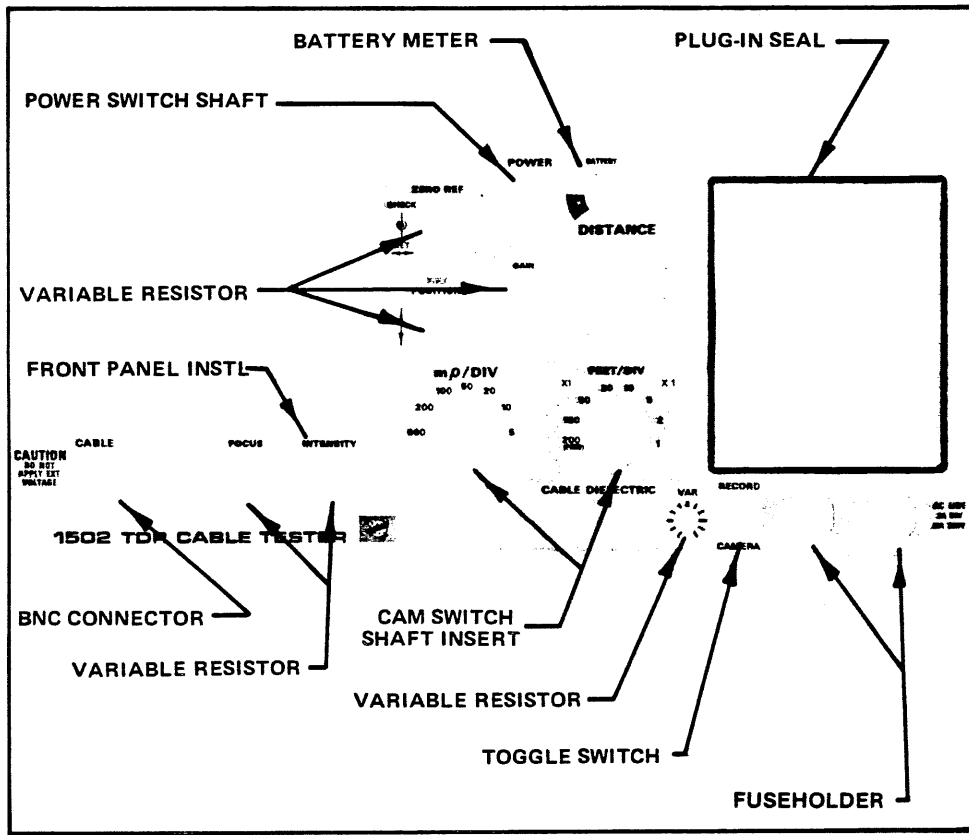

Figure 4. Front Panel, identification of parts for assembly steps 8 through 26.
STEP 8. Preparation of Front Panel for assembly (see Figure 4)
- (1) 1502 TPN 333-1991-00, MPL Item 2-47.
- (2) 1503 TPN 333-2003-00, MPL Item 2-49.
- (3) 1503 Option 5, TPN 333-2123-00, MPL Item 2-49.